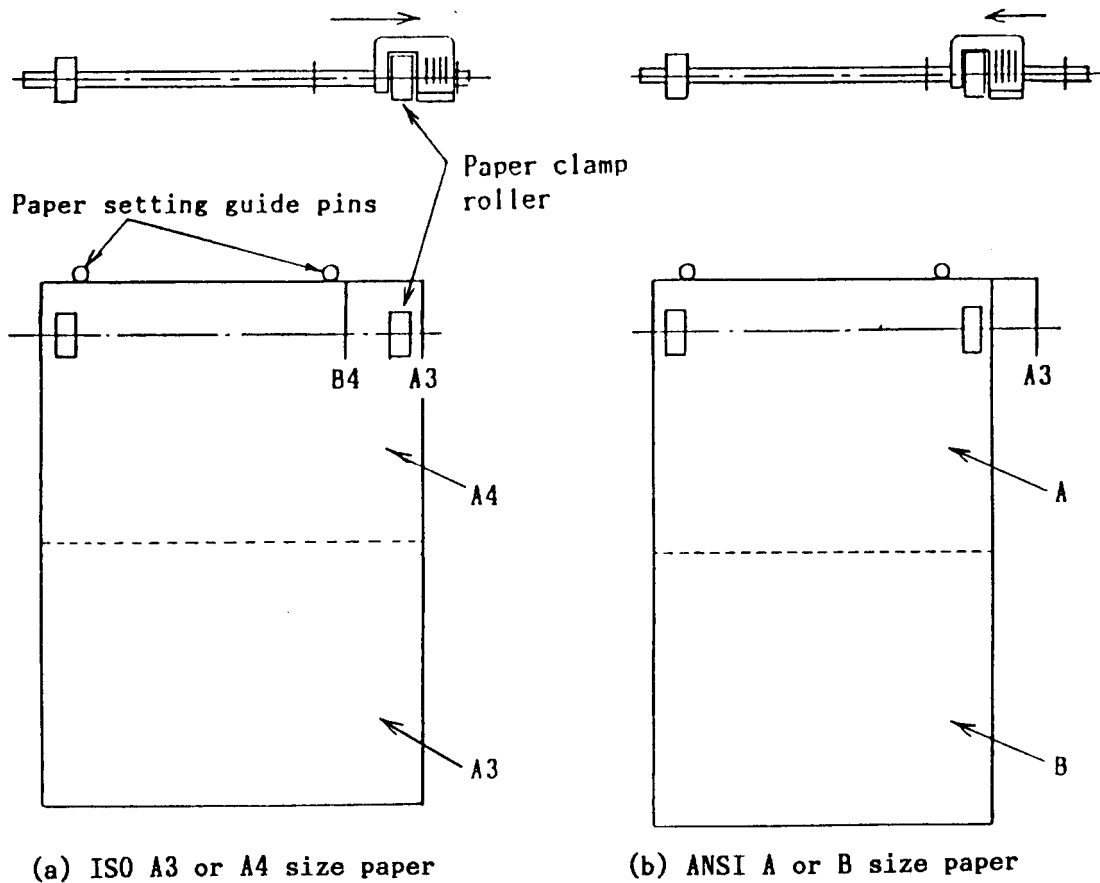

Fig. 4-4 Paper Setting
- (2) Move the paper clamp roller to the right for ISO A3 or A4 size paper, and to the center of movable width for ANSI A or B size paper (Fig. 4-4).
- (3) Set the paper on the platen by aligning the paper top with the paper setting guide pins. When the paper is A3 or B size, the paper top is the short side. When the paper is A4 or A size, the paper top is the long side (Fig. 4-4). Take care that the paper does not wrinkle or loosen.
- (4) Push down the paper-holding knob, and the paper is held.